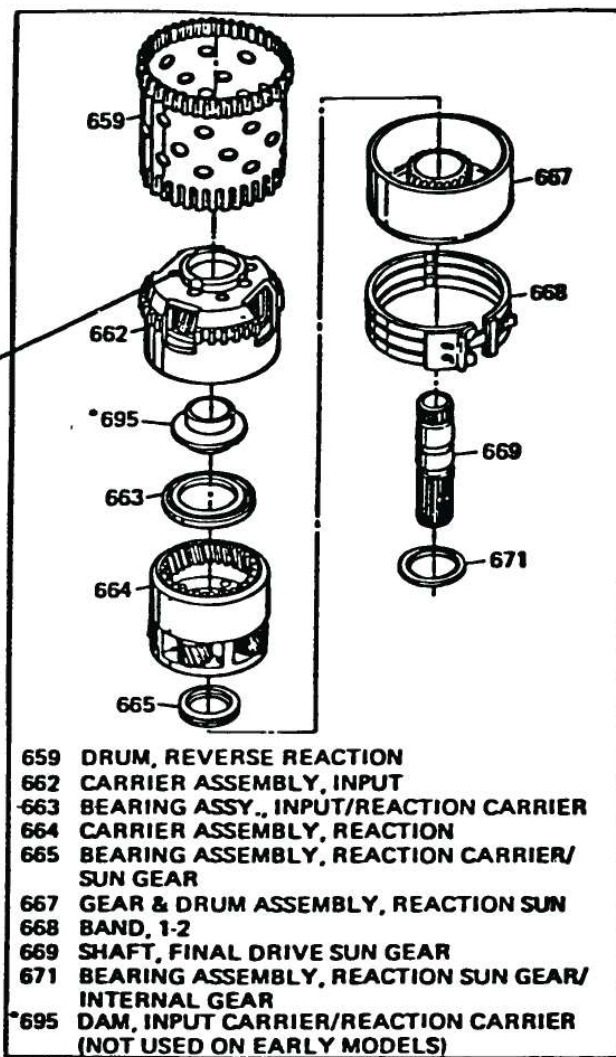

Figure 46
- 6) Input Carrier(622) - Shoulder machined down to shorter dimension (See Figure 46).
CAUTION: The input carrier must be replaced or modified as per specifications in Figure 46. If not replaced or modified, an interference will result and damage to the transaxle. The lip protruding on top of the input carrier must be machined to meet the dimension shown in Figure 46. Extra care must be used in the machining process, as the torrrington bearing will not come out of the input carrier.